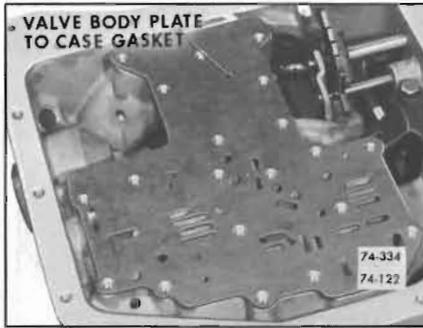

Figure 74-122
10. Remove valve body plate to case gasket. See Figure 74-122.